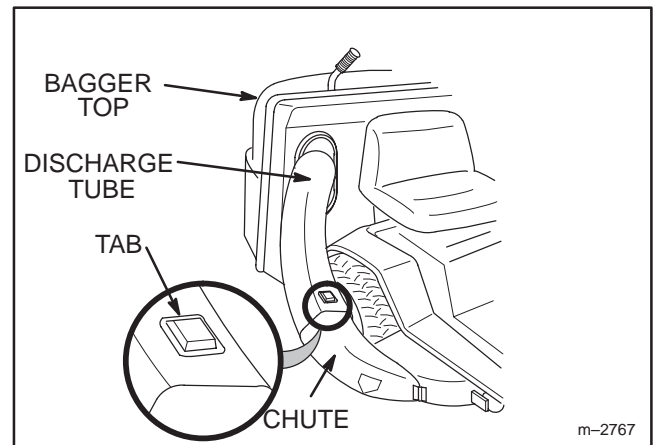

Figure 5
3. Slide the discharge tube into the bagger top. Then push the discharge tube over the discharge chute (Fig. 5). For proper fit, the square hole in the discharge tube fits over the raised tab on the discharge elbow (Fig. 5 inset).